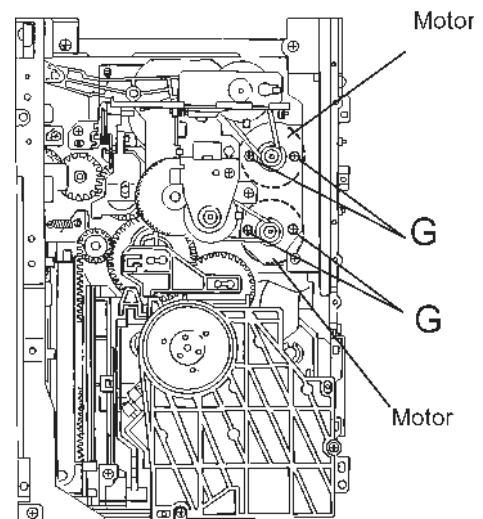

Fig.20
3.1.6 Removing the motors (See Fig.20)